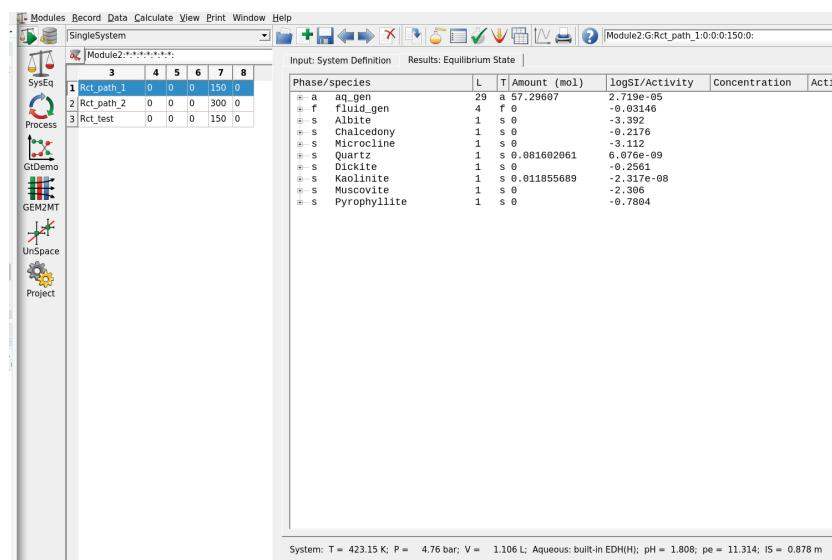

Figure 2.4: Results of the calculations, i.e. with 10 g K-feldspar added to the fluid.
- Determine the pH of this system as shown in the lower right of the main window (Fig. 2.4).